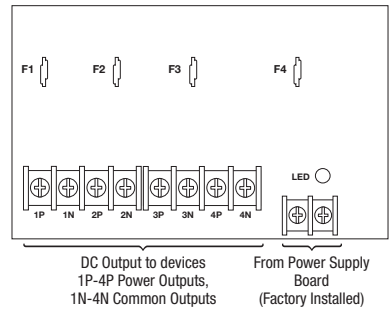

Fig. 3a - PD8 Power Distribution Board
- b. For other Power Distribution Models: connect devices to be powered to the terminal pairs 1 to 4 marked [1P & 1N] through [4P & 4N] (*Fig. 2a & 2b, pg. 6*) or 1 to 8 marked [1P & 1N] through [8P & 8N] (*Fig. 3a & 3b, pg. 6*), carefully observing correct polarity.
6. For Access Control applications batteries are optional. When batteries are not used, a loss of AC will result in the loss of output voltage. When the use of stand-by batteries is desired, they must be lead acid or gel type. Connect one (1) 12VDC battery to the terminals marked [+ BAT -] for 12VDC operation. Use two (2) 12VDC batteries wired in series for 24VDC operation.